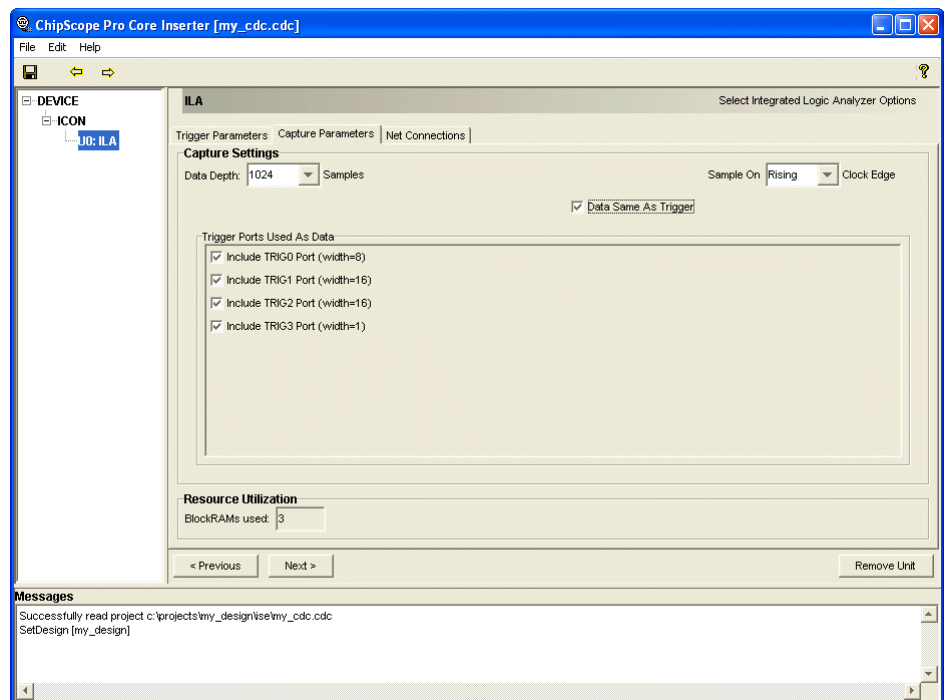

Figure 3-12: ILA Core Data Same As Trigger Parameters
- **Data Same as Trigger (Figure 3-12)**